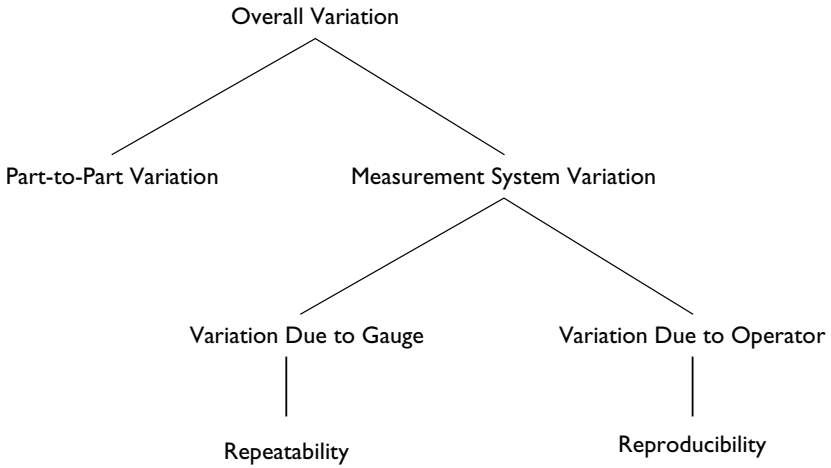

Figure 8-6. Example of gauge capability study
5. Do a gauge (sometimes spelled gage) capability study, if necessary (Figure 8-6).